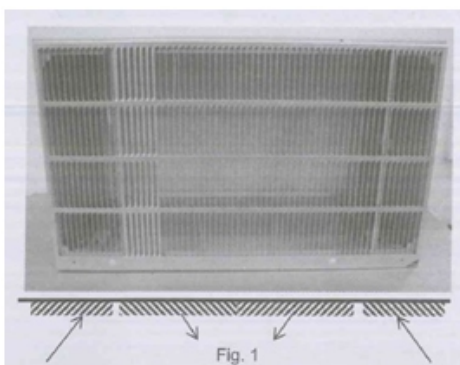

Fig. 1
When installation is complete, replacement unit must have rearward slope as shown in Fig 1.
1. Attach the 2 seals(1"x3/8"x14"), as Fig. 1.
In case where the existing sleeve is a non-Frigidaire sleeve but is installed with a dual intake grille. The existing grille may be left in place. Make sure the outer 3 1/2" to 4 1/2" louvers are angled from the left and right sides of the sleeve toward the center, as Fig. 1. This provides proper flow of outside air into the unit.